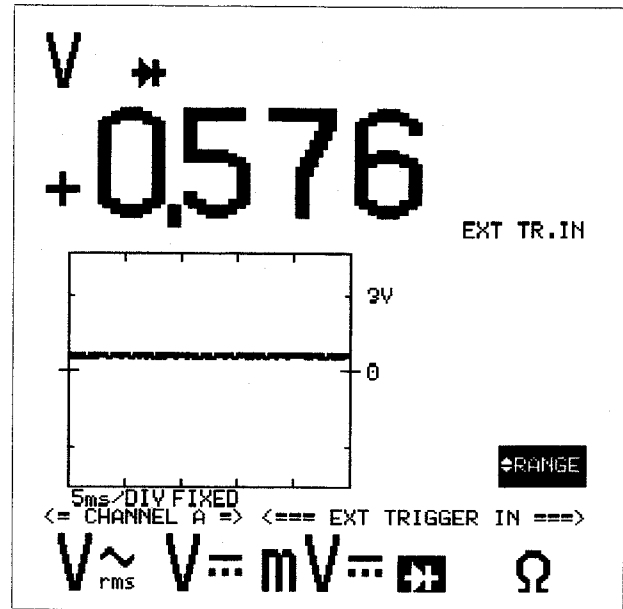

Figure 2-6. Diode Test Display
2. ScopeMeter now provides an audible beep for each diode test that passes. A diode test display is shown in Figure 2-6.